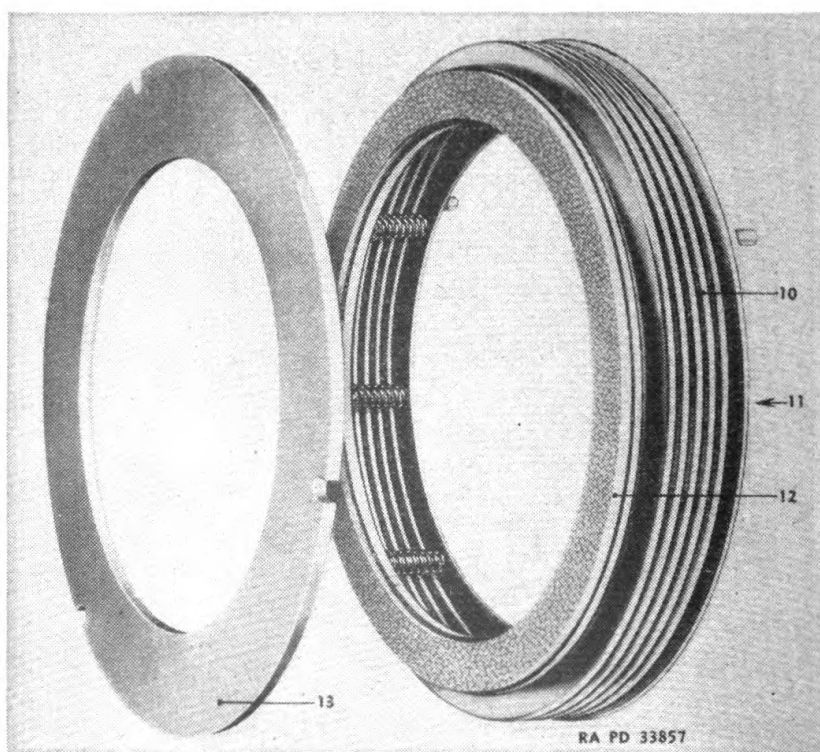

FIGURE 140.—Copper bellows and gasket assembly.
(2) Replace copper bellows seal in adjusting nut if bellows section (10) (fig. 140) is damaged. Gaskets (11) and (12) can be replaced if worn or damaged. A varnish, shellac cement should be used.
(2) On each side of the sprocket is a thrust washer (13) (fig. 140) which rotates against the bellows seal. Should the washer become worn, it should be turned over or replaced. Install a new gasket between the washer and the sprocket.